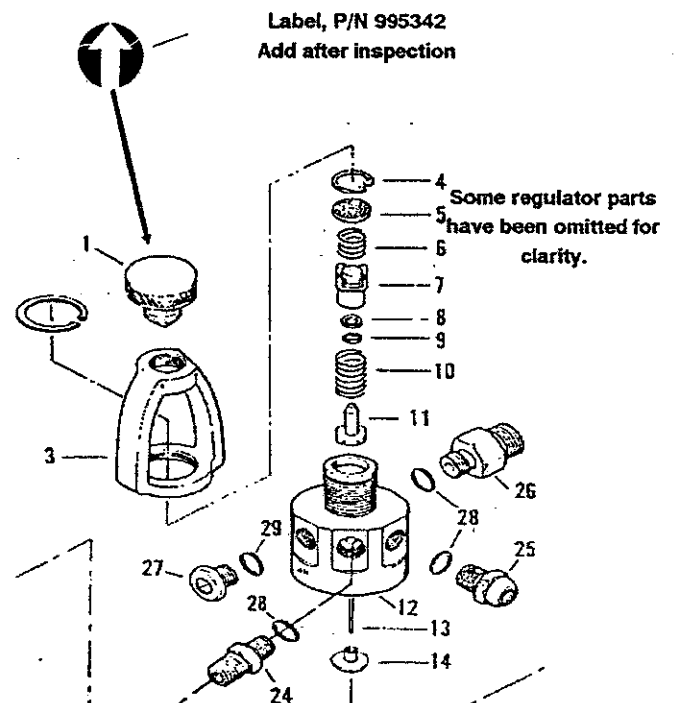

Figure 2. First Stage Regulator
A. Disassembly - Refer to Figure 2.